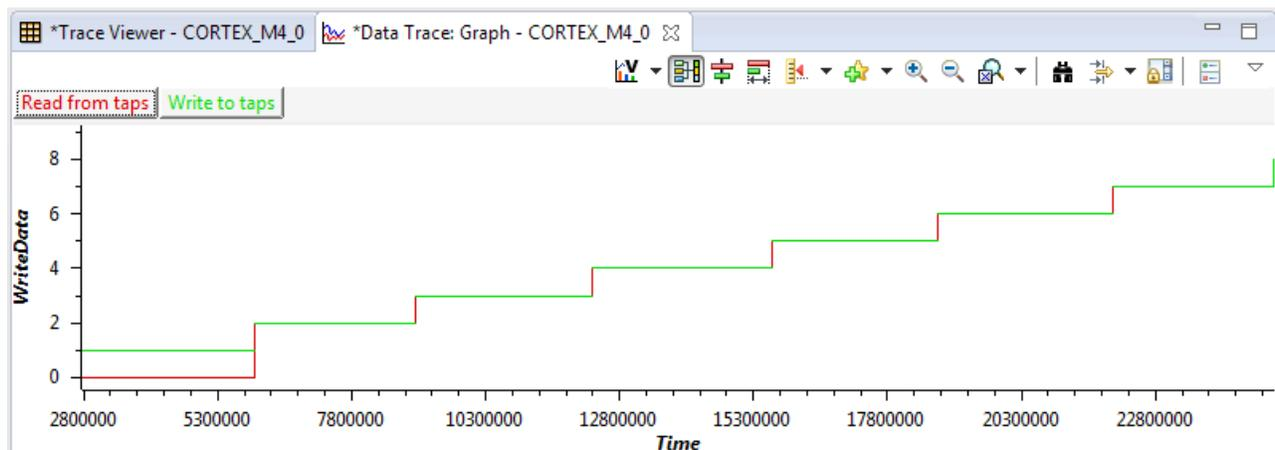

Figure 12. Data Variable Tracing Demo
- (a) To demonstrate, start the program with no breakpoints. Push the SW1 however many times you would like, keeping track of how many times you have pushed it. In Figure 12, SW1 was pushed 8 times, each time when the LED blinked, so the time between each press was approximately the same each time.